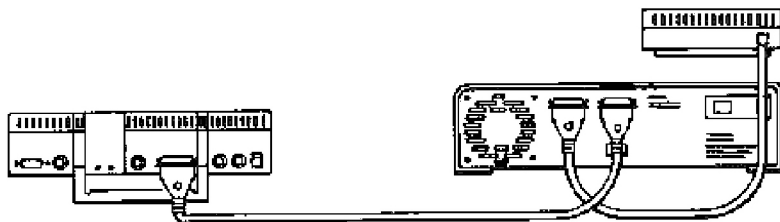

Figure 2-4. Hardware Configuration (Apple //c)
6. Your hardware configuration so far (assuming you connected an Apple IIc external diskette drive in step 5) should appear as illustrated in Figure 2-4.